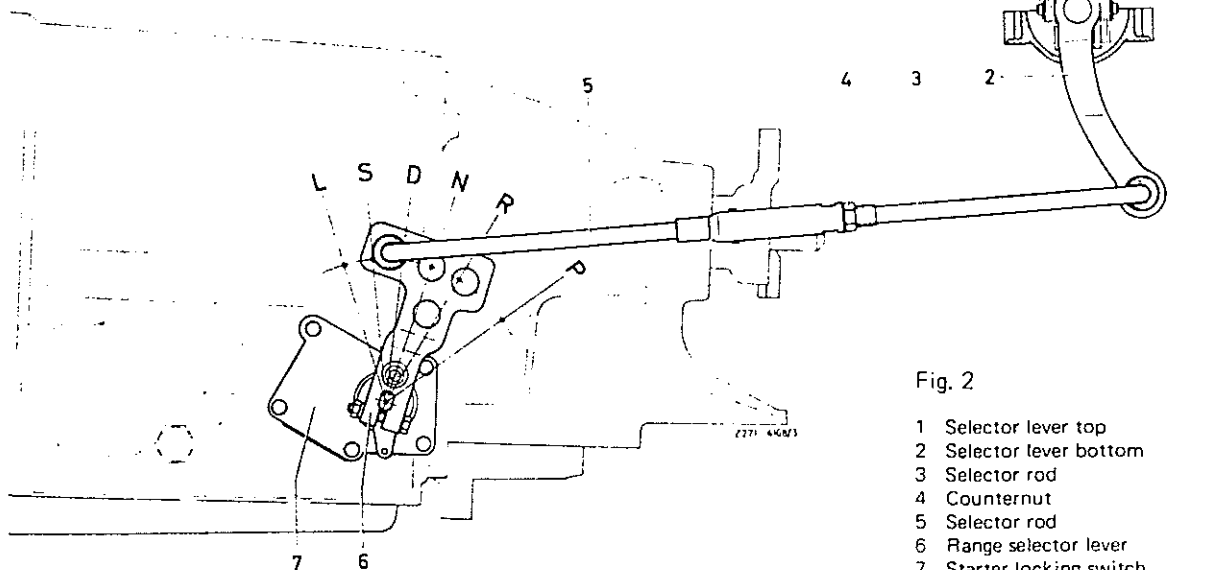

Fig. 2
Disconnect selector rod (5) on range selector lever (6). Set range selector lever (6) and selector lever (1) to „N“. making sure that approx. 1 mm play is available between the selector lever (1) and the „N“ stop on gate plate. Adjust length of selector rod (5) in such a manner that it can be attached free of stress; then tighten counternut (4) again. (Fig 2).